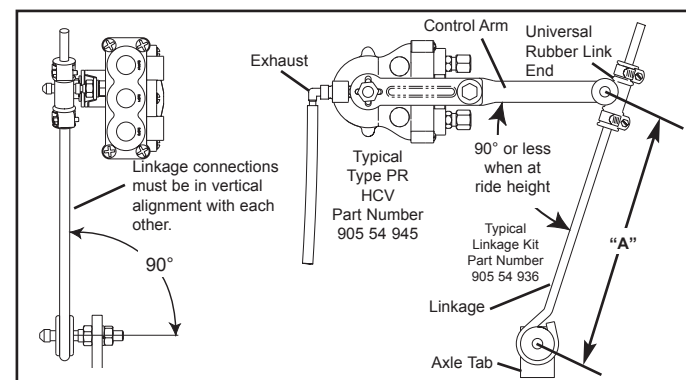

Figure 3. PR HCV Detail
- With the suspension at ride height and the HCV control arm at center position, measure the distance from the control arm linkage mounting hole to the axle tab bracket mounting hole (Dim. "A" - Fig. 3). This is the required linkage length.
- Determine location of the lower linkage tab. A typical Type PR HCV and linkage assembly are shown in Fig. 3. Note the recommended angle between the HCV and linkage connection.